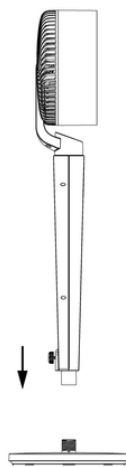

Fig.1
1. Screw the fan body to the base (Fig. 1).